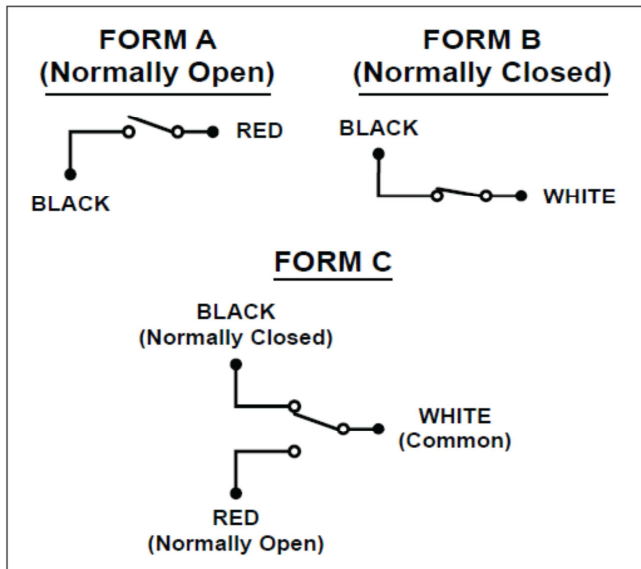

Figure 20. Form A, B & C
2. Flow-Alert reed switches are available in three configurations: Form A (normally open), Form B (normally closed), and Form C (SPDT). Wire color codes and switch configurations are shown in **Figure 20**.